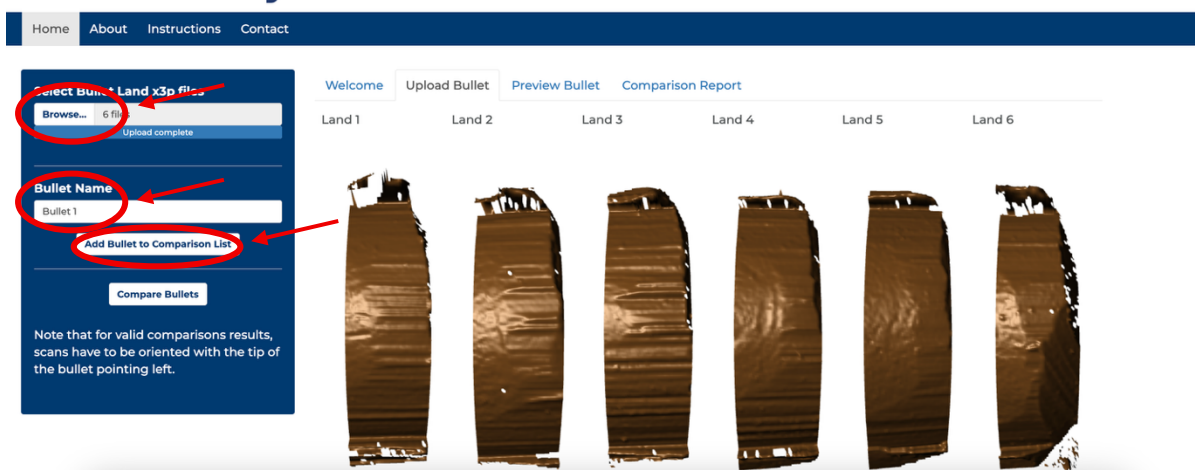

Figure 9. Click Browse to upload the scans from the first bullet. Give the bullet a name. Click Add Bullet to Comparison List.
- Select all 6 files in this folder. Each x3p file is an image of a bullet land engraved area. (Figure 9)
- Give the bullet a name (e.g., Bullet 1). (Figure 9)
- Add it to the Comparison List. (Figure 9)
- A preview of each land is shown in the main window. Rotate and zoom the lands for different perspectives. (Figure 9)